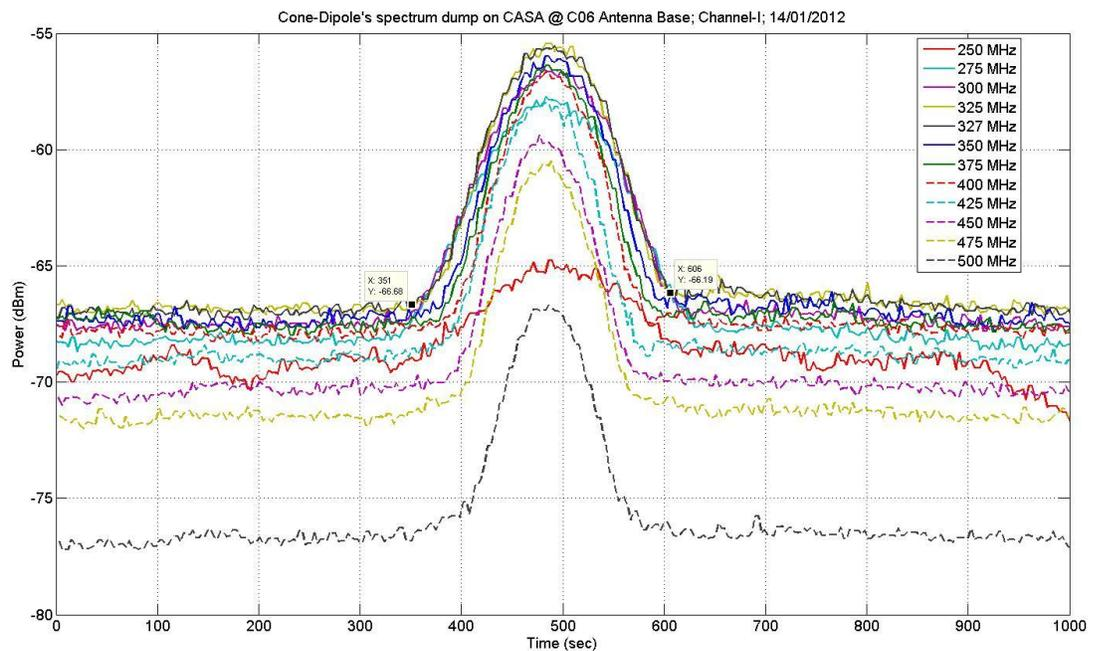
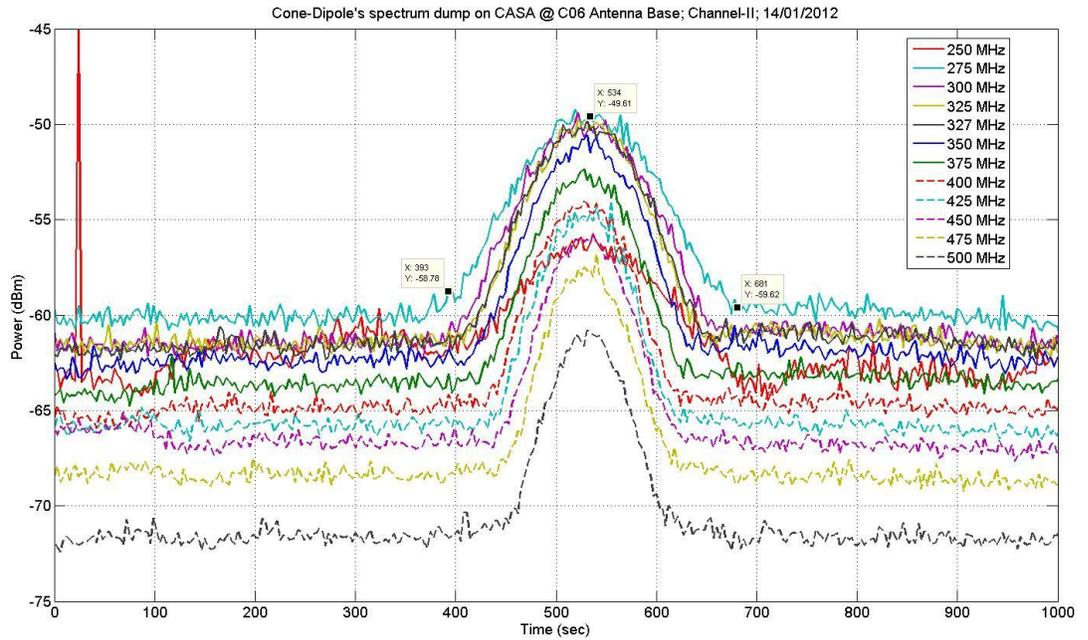

Fig 1: Raw data of RF channel-I of Cone-Dipole Feed @ C06 Antenna.
Fig 2: Raw data of RF channel-II of Cone-Dipole Feed @ C06 Antenna.
- a) Delay Time (S): 3 sec (We can set upto 1 sec)
- 6) Slew the Antenna across the strong source (CASA) for 16 minutes with 50 arc-min/min (slew rate) either elevation or azimuth direction and get the raw data (SPD_C06_ch1.txt file) from the Spectrum Dump's Labview Program (Fig:1 & Fig:2). See **Appendix-B**.